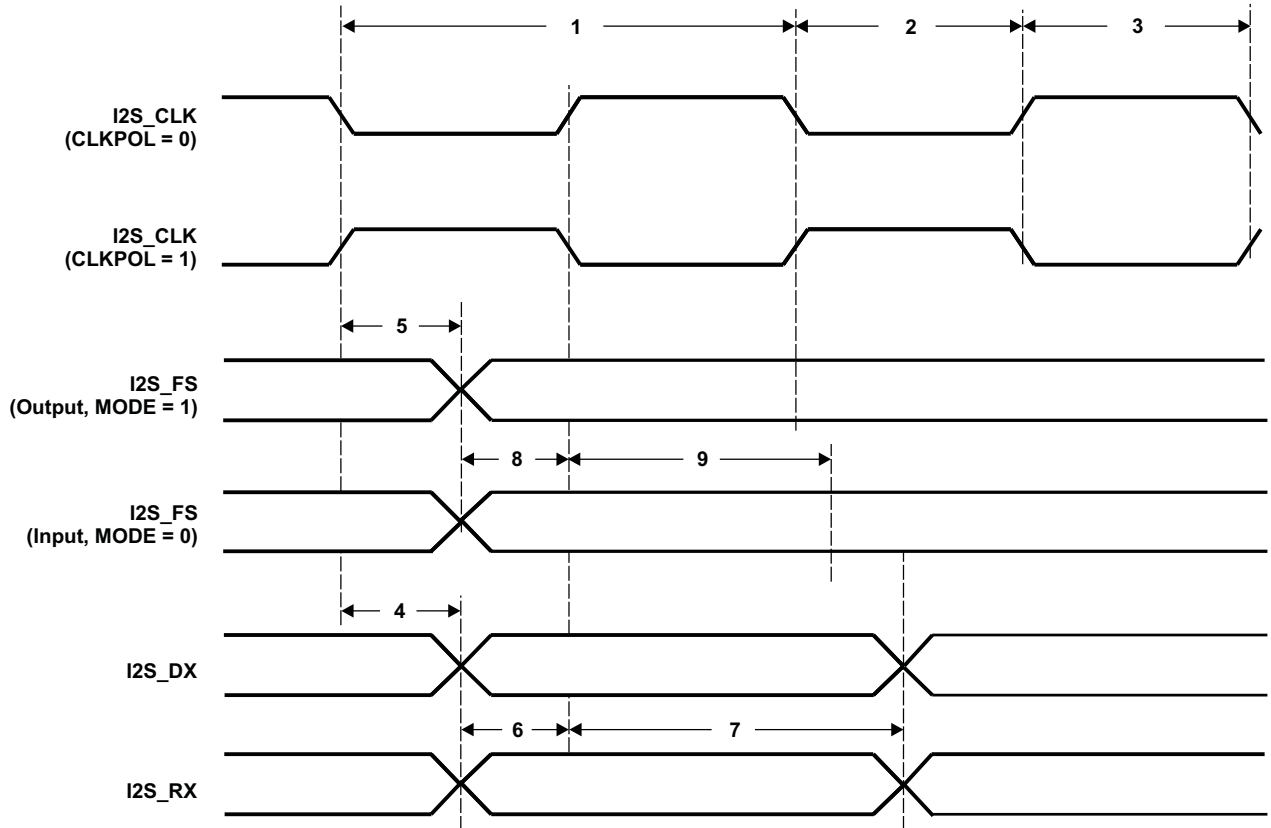

Figure 6-29. I2S Input and Output Timings
**Table 6-37. Timing Requirements for I2S [I/O = 3.3 V, 2.75 V, and 2.5 V](1) (see Figure 6-29)**
(1) P = SYSCLK period in ns. For example, when the CPU core is clocked at 100 MHz, use P = 10 ns.
(2) Use whichever value is greater.
(3) In Slave Mode, I2S\_FS is required to be latched on both edges of I2S input clock (I2S\_CLK).
**Table 6-38. Timing Requirements for I2S [I/O = 1.8 V](1) (see Figure 6-29)**
[I/O = 3.3 V, 2.75 V, or 2.5 V] (see Figure 6-29)
[I/O = 1.8 V] (see Figure 6-29)**